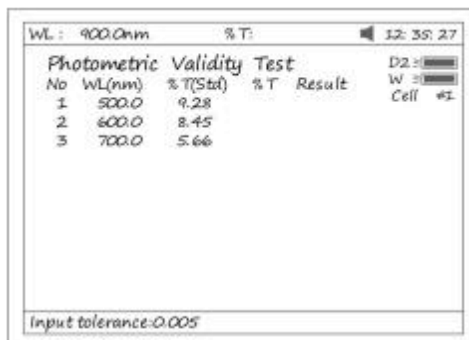

Fig 93
4. Press **【 F3 】** to set tolerance (Fig 93). Input the value by pressing the numeric keypad.